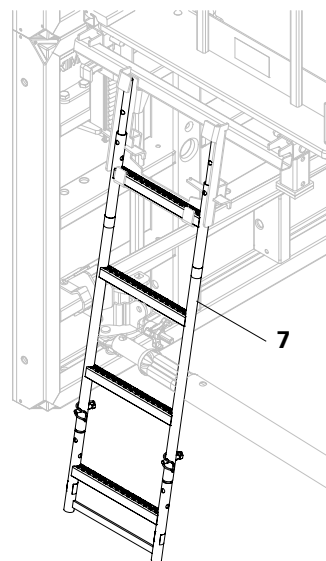

Fig. A9.03c
2. Insert Ladder (7), with Ladder Base if required, into the guides and position rungs in the holders. (Fig. A9.03c)